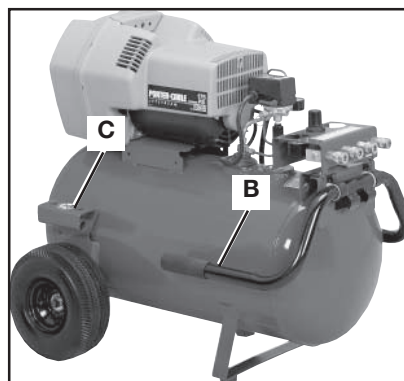

Fig. 10
2. Locate the lift handles (C) on each side of the unit.
3. With a person on each side, carefully lift unit using handle (B) and lift handle (C). See Figure 10.